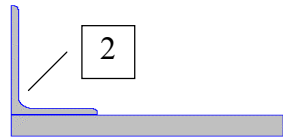

Fig. 43. Setting the first angle
- ☞ press the **Add** button (Fig. 43);